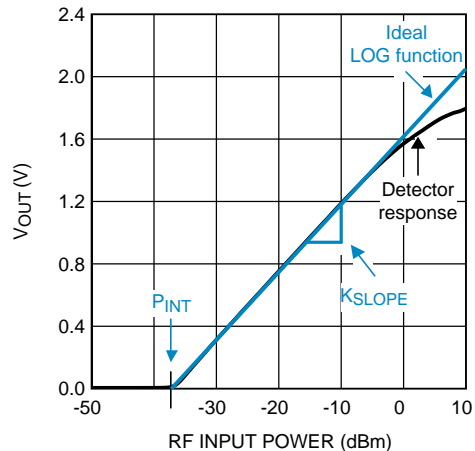

Figure 52. Ideal Logarithmic Response
- P_{INT} is the power level in dBm at which the line intercepts $V_{OUT} = 0V$ (See Figure 52). (12)